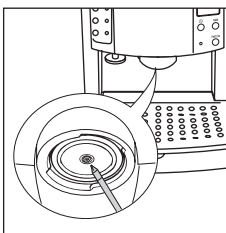

fig. 34
- Using a screwdriver, unscrew the screw fixing the espresso boiler outlet (fig. 34);